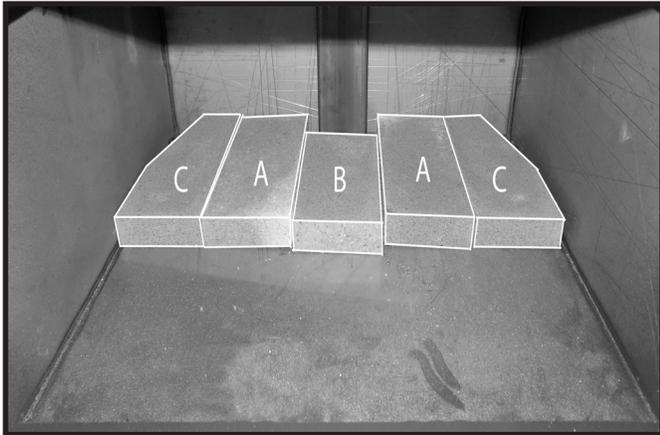

Figure 25: Back row of bricks Summit Insert LE.
1. Begin by placing a "C" brick onto the left and right, rear corners of the firebox floor. Continue by placing sn "A" brick next to them, then the short "B" brick in the center up against the baffle tube (Figure 25).